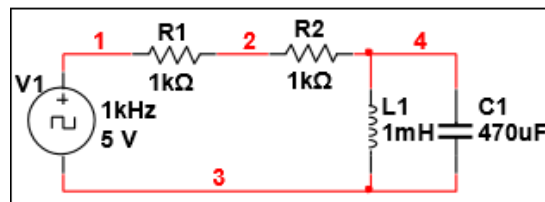

Figure 13.2: Parallel RLC Circuit
- A test circuit is shown in figure 13.2.
- A test circuit is shown in Fig. 13.2.